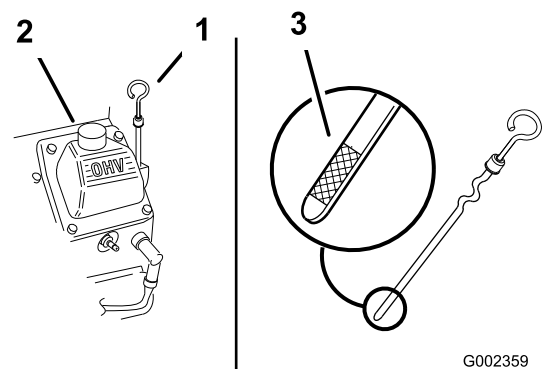

Figure 160
3. Clean around the oil-fill cap and dipstick (Figure 160).